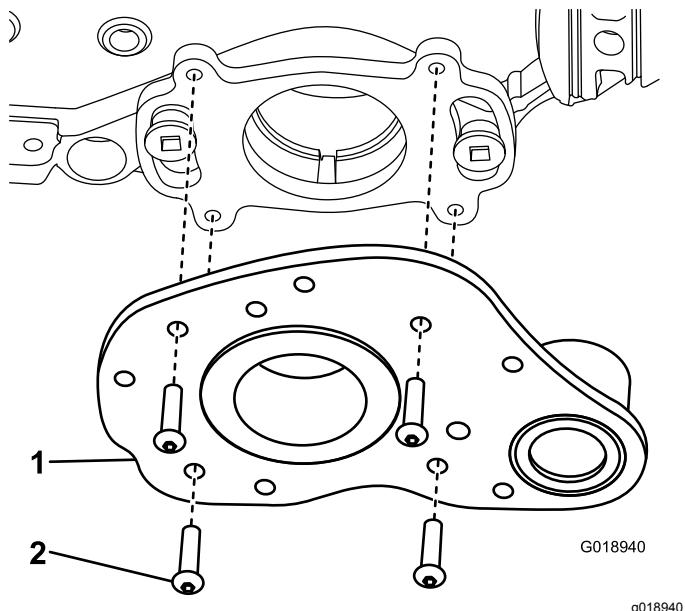

Figure 31
7. Remove the 4 screws securing the groomer drive assembly to the rear mounting plate (Figure 31).